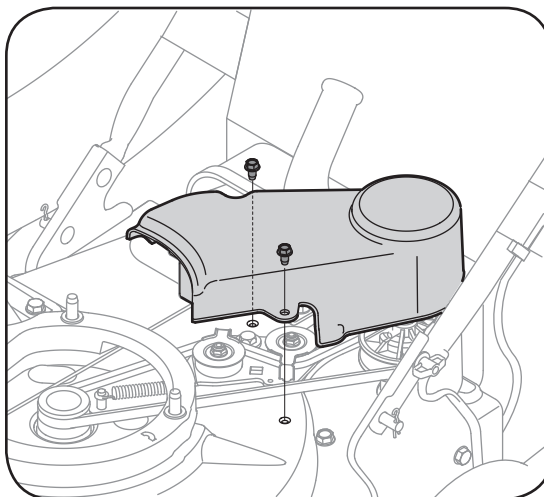

Figure 16
- Remove the three self tapping screws securing the belt cover, and remove the belt cover. See Figure 16.